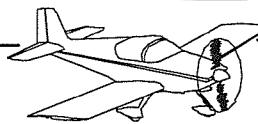

**FIGURE 2: REINFORCEMENT PLATE RIVETS**
Step 4: Repeat step 3 for the R-607PP Reinforcement Plate (as located on Page 7-5, Figure 2) using the same rivets and an additional nutplate.
Step 5: Back rivet (see Section 5F) all the R-1015 Stiffeners to the R-1001 Skins, as shown in Figure 2, using the rivets shown on page 7-12, Figure 3. Riveting tape, which is very useful for holding rivets in place while back-riveting, is available from the Van's Aircraft Accessories Catalog.